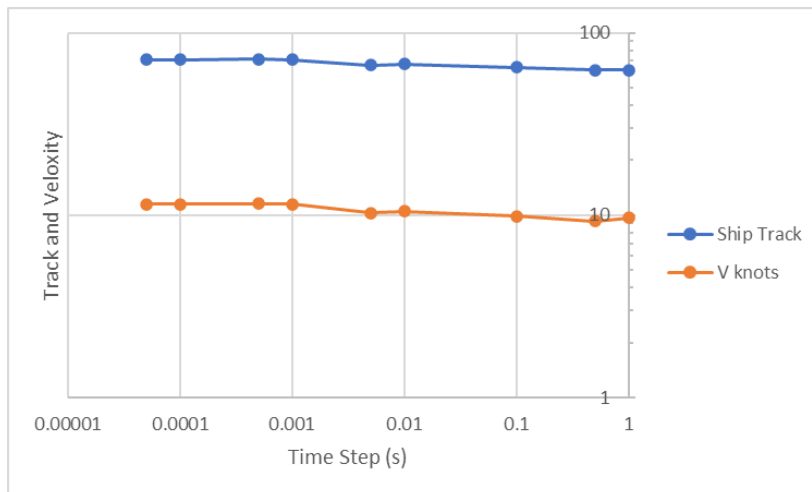

Figure 4. Effect of time step size on solution of ship speed and direction. Below roughly 0.001 s, the speed and direction appear to remain a constant value.
6. The user should run experiments to determine the highest possible time step to use. This is done by trying progressively smaller time steps until there is no longer significant change in the results. Figure 4 below shows the ship speed and track resulting from varying the time step. The results showed that a time step of 0.001 seconds was appropriate.